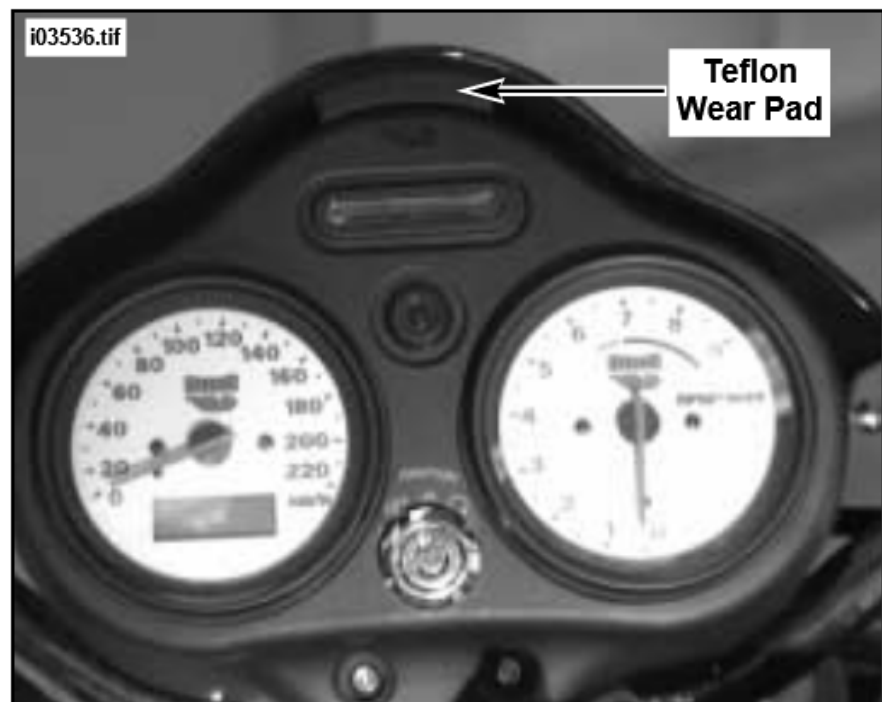

Figure 12. Install Teflon Wear Pads
31. See Figure 12. Obtain the Teflon Wear Pad (Part Number C0146.T) from kit. Peel off adhesive backing and install to inner surface of windscreen at location shown to keep dash panel from rubbing on windscreen.